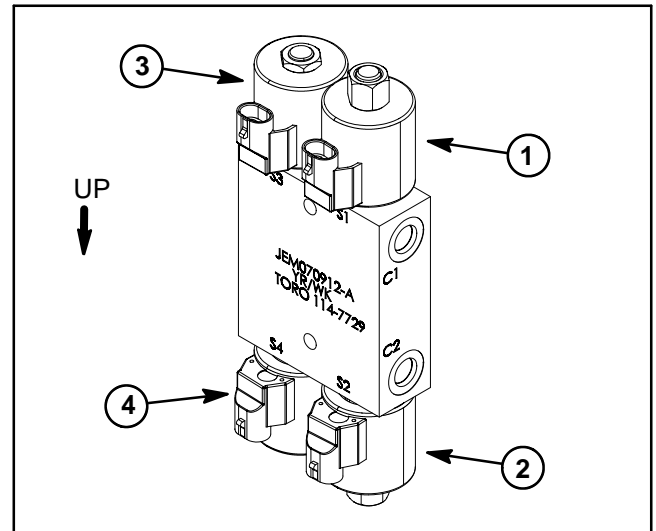

Figure 15
The ProCore Processor tow hitch kit uses four (4) solenoid valve coils on the hydraulic tow hitch manifold (Fig. 15). When the solenoid valve coils are energized, tow vehicle hydraulic flow can be directed to the tow hitch hydraulic offset cylinder to change the position of the ProCore Processor behind the tow vehicle.